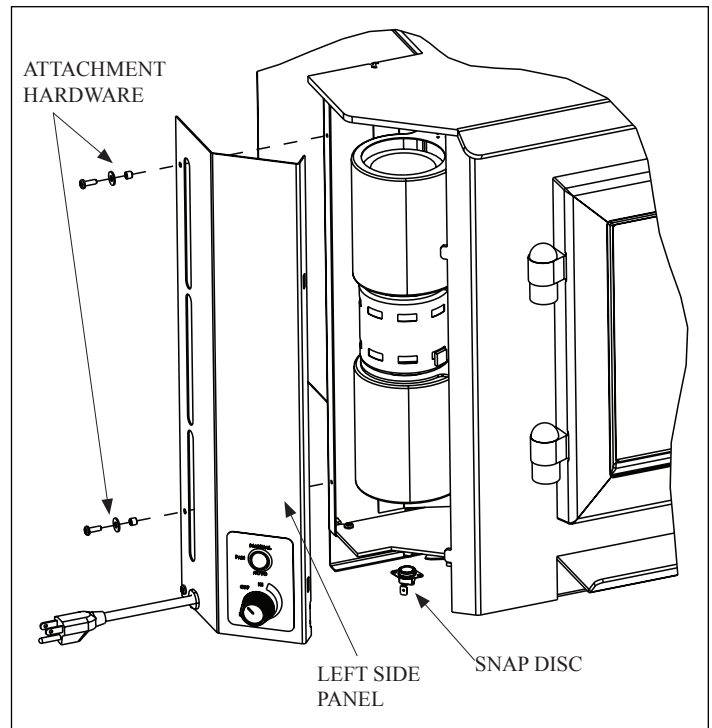

Figure 21.1 Snap Disc Location
2. Using a phillips head screwdriver, remove 8-32 screw, washer and bushing assemblies holding left side panel in place. Remove panel. **Figure 21.1**